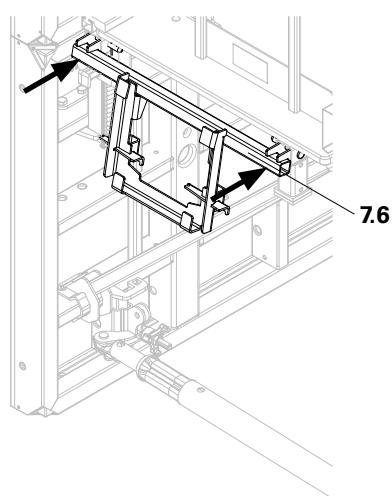

Fig. A9.03b
1. Insert Ladder Adapter 120 (7.6) into the platform profile and secure with pins. (Fig. A9.03b)
2. Insert Ladder (7), with Ladder Base if required, into the guides and position rungs in the holders.